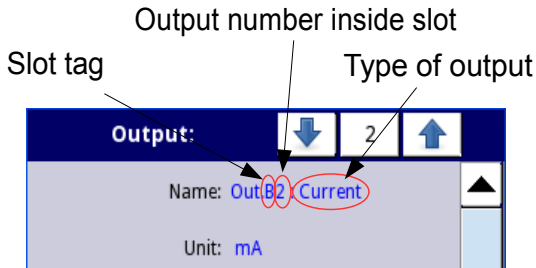

Fig. 7.77. Description of **Name** parameter in **Built-in outputs** menu
- **Name** - each output already has a name given by the device and user cannot change it, for description of **Name** parameter see **Fig. 7.77**,
- **Name** – each outputs already has a name given by the device and user cannot change it - see **Fig. 7.77**,
- **Name** – each outputs already has a name given by the device and user cannot change it - see Fig. 7.77,